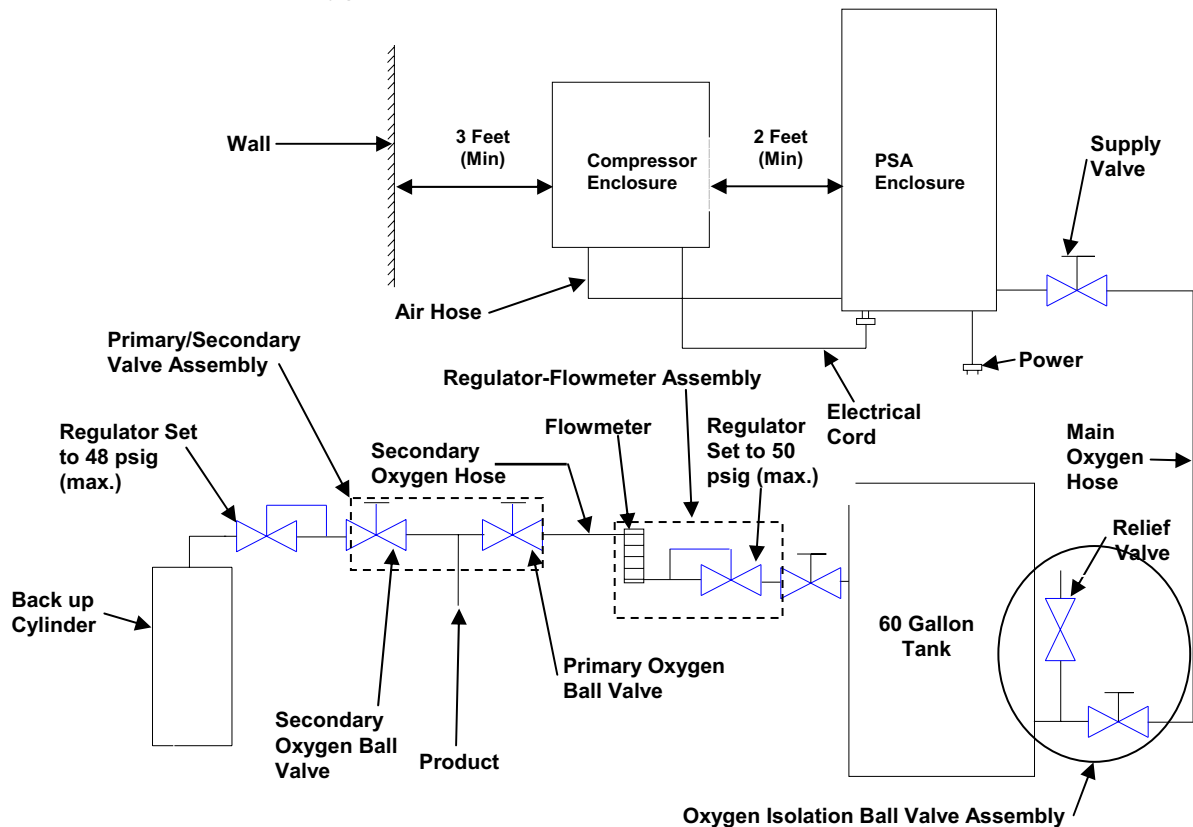

Figure 5.1: General Arrangement of the CENTROX concentrator
The primary oxygen ball valve controls the flow of oxygen from the oxygen concentrator to your oxygen distribution system. See Figure 5.1.
The secondary oxygen ball valve controls the flow of a backup source of oxygen to your oxygen distribution system. This ball valve should always be closed unless a backup source is connected to it. See Figure 5.1.
the flow of the oxygen at the outlet of the oxygen receiver. Refer to figure 5.1 for the installation location of this assembly.
Secondary hose is provided to connect the outlet of the regulator-flowmeter assembly to the inlet of the primary oxygen ball valve. Refer to Figure 5.1.
This assembly is shipped loose and must be connected to the PSA enclosure oxygen outlet. The supply valve assembly limits the amount of flow to the oxygen receiver during purge. Refer to Figure 5.1 and 6.1.
Refer to the Figure 5.1 as you follow the installation instructions:
5. Mount the supply valve assembly (shipped loose) at the outlet of the PSA enclosure. Refer to Figure 5.1 and 6.1.
8. Connect the inlet of the primary oxygen ball valve to the outlet of the regulator-flowmeter assembly (See Figure 5.1) with the secondary oxygen hose.
12. Plug the electrical cord coming out of the compressor enclosure to the PSA enclosure as shown in the Figure 5.1.
2. Insert the compressor enclosure electrical plug to the electrical inlet at the bottom of the PSA enclosure. Refer to Figure 5.1.
5. Ensure that oxygen isolation ball valve is open (See Figure 5.1).
6. Close the primary and the secondary oxygen ball valves (See Figure 5.1).
12. Fully open the regulator and flowmeter (See Figure 5.1). Oxygen should start coming out of the outlet once the regulator and flowmeter are open.
15. Fully close the primary oxygen ball valve (See Figure 5.1).
5. Close the oxygen isolation ball valve (See Figure 5.1).
2. Ensure that the oxygen isolation ball valve is open (See Figure 5.1).